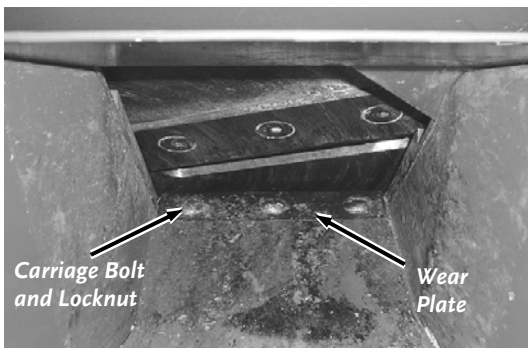

Figure 38
1. To adjust the Wear Plate Gap, loosen the three Nuts on the Carriage Bolts with a 7/16" wrench just enough so the Wear Plate will move but still have a slight resistance. Now you can slide the Wear Plate up or down (in or out) to achieve the correct gap setting (**Figure 38**).